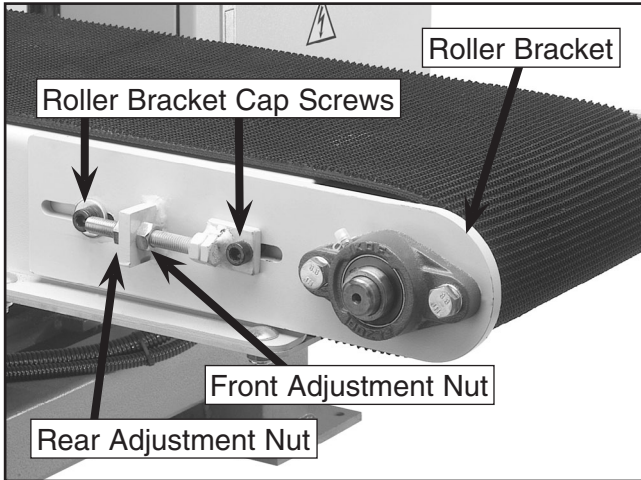

Figure 42. Roller bracket cap screws and adjustment nuts.
4. Loosen the roller bracket (see **Figure 42**) by turning the roller bracket cap screws $\frac{3}{4}$ of a turn.